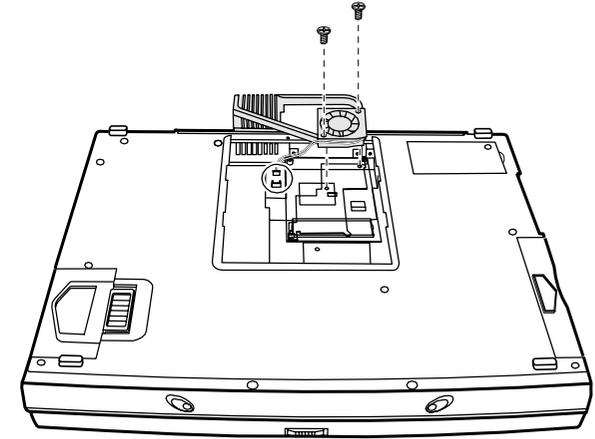

Figure 5-14. Removing the Fan Assembly
4. Place the fan assembly on top of the CPU module. Plug in the power cord and secure the fan assembly with two screws. (Refer to Figure 5-14 earlier.)